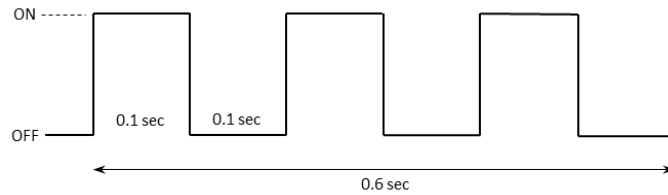

Figure 2-10: The GREEN LED Pattern Before Entering DEEP SLEEP
2. Immediately, **GREEN** is toggled ON and OFF every 0.1 sec for 0.6 sec as shown in Figure 2-10.